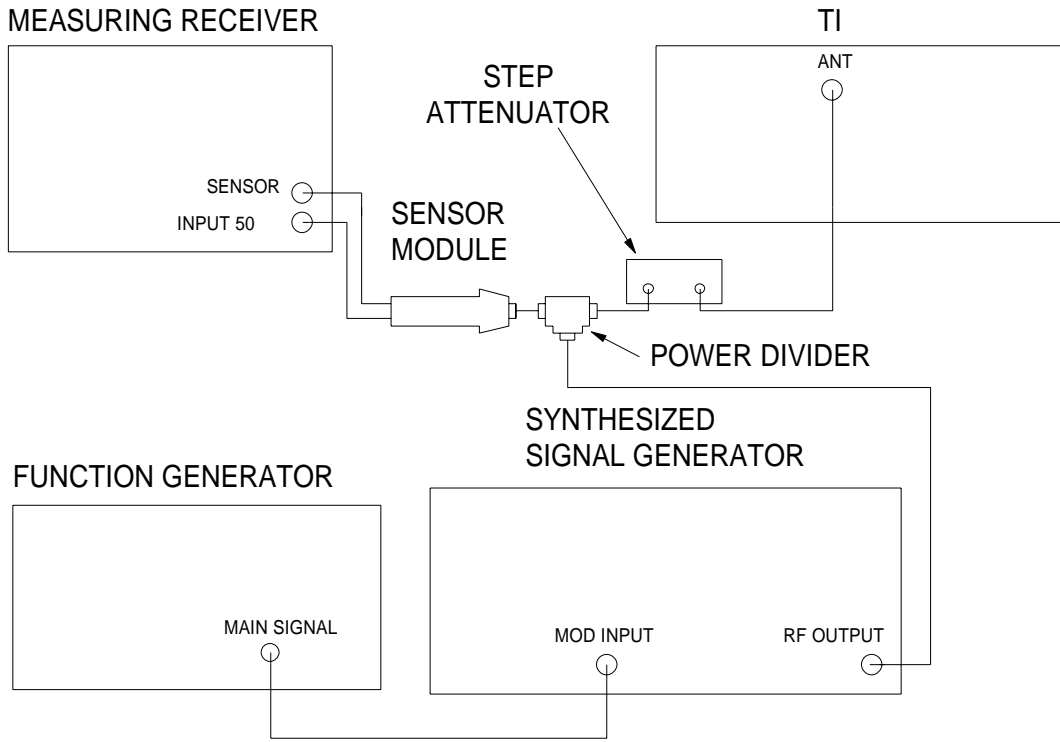

Figure 2.
4.9.1.1 Connect equipment as shown in Figure 2.